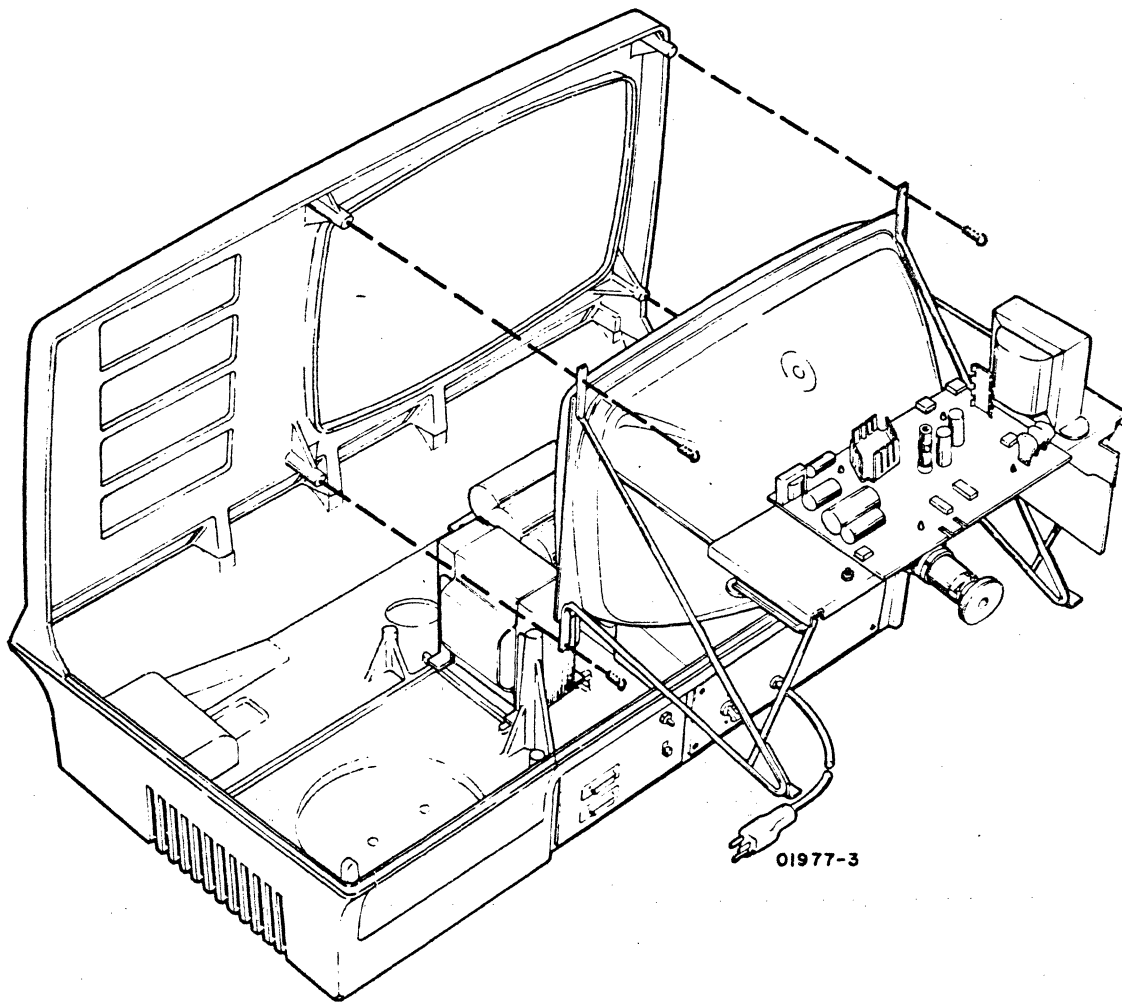

Figure CRT16. Video Module Installation
- 7) Verify left-bottom and right-bottom hex screws are both partially screwed into mounting supports on bezel (figure CRT16).